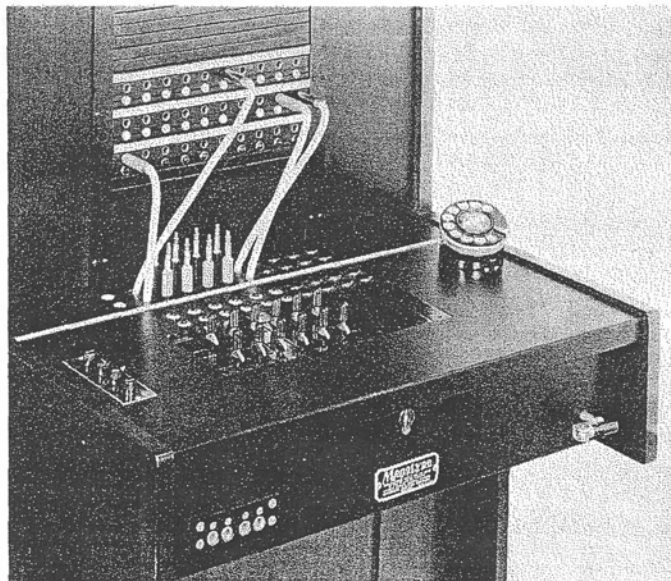

Fig. 59. One-position non-multiple private branch exchange switchboard.
- (b) calls to private branch exchanges in business houses, hotels, etc., where a P.B.X. switchboard (figure 59) connects each "outside" caller to the desired department or individual.